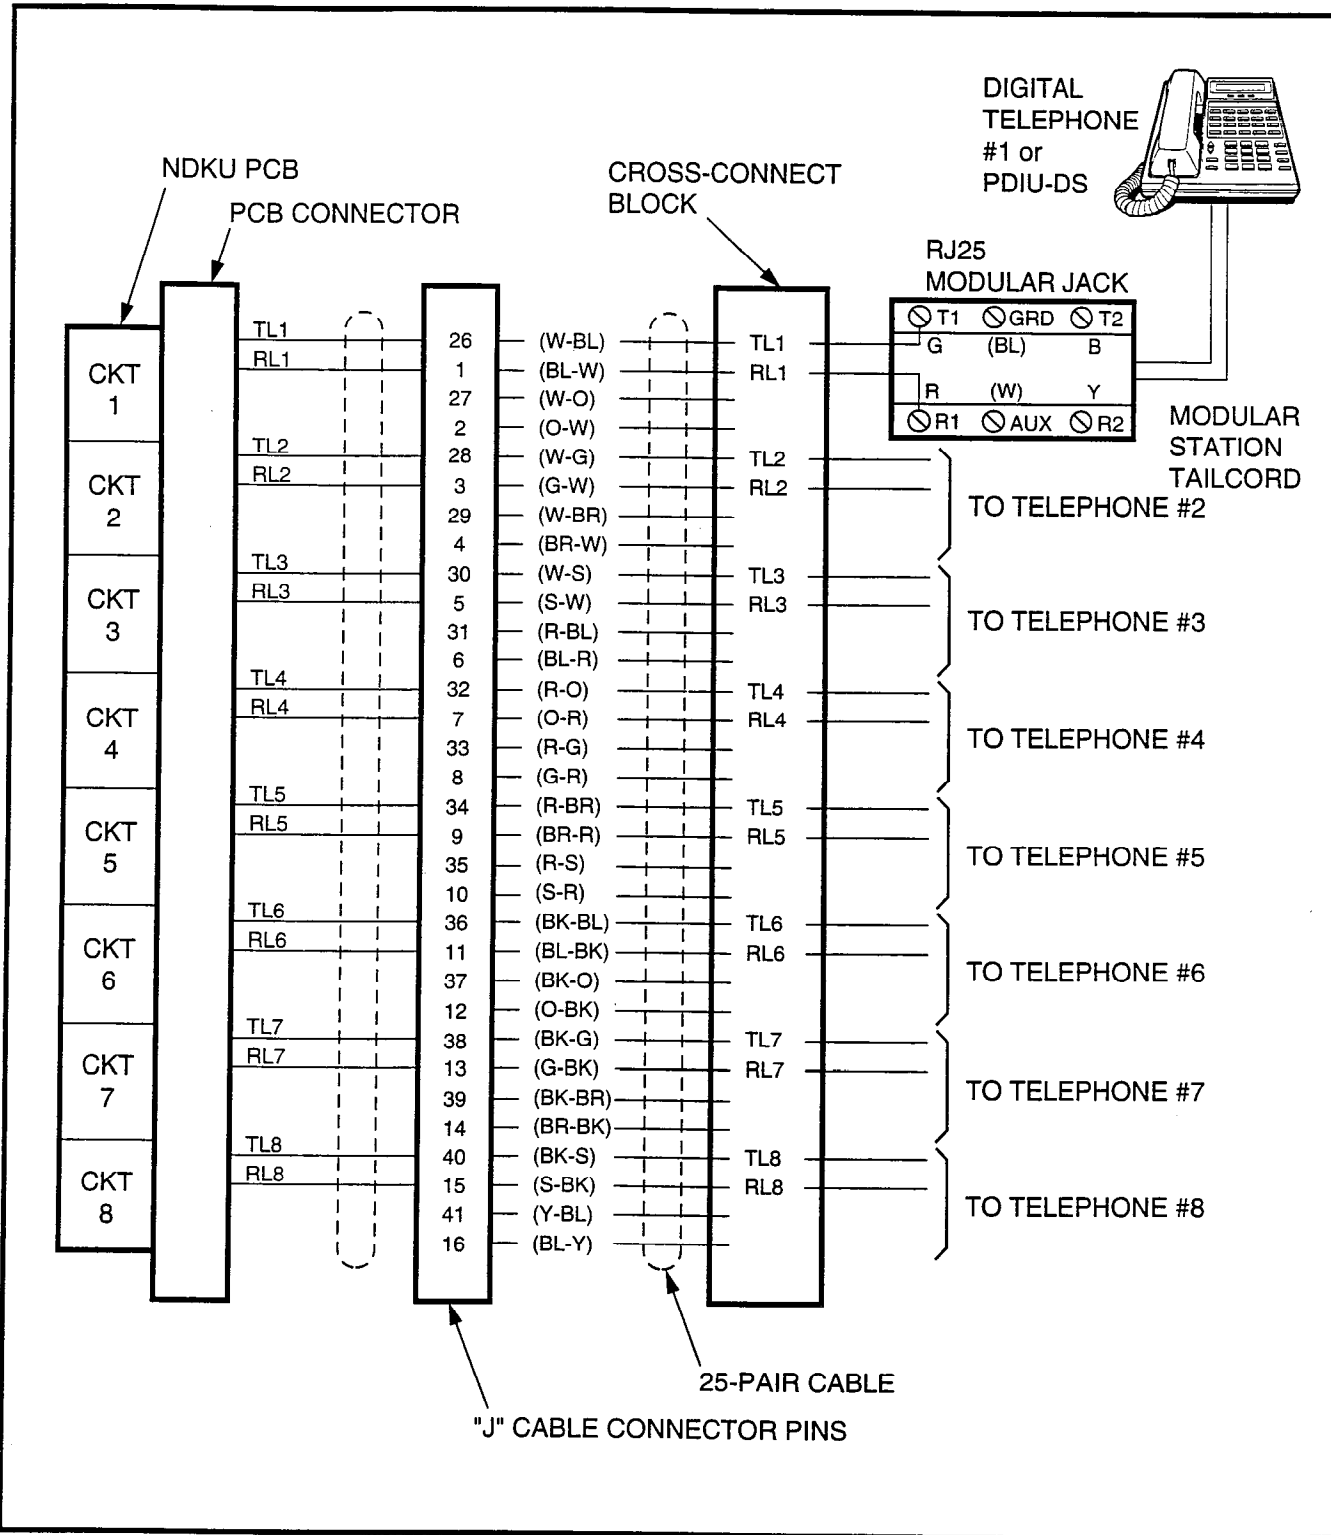

FIGURE 4-42—DIGITAL TELEPHONE CONNECTION
6.04 Digital telephone connection details are shown in Figure 4-42.
Digital Telephones with Data Interface Units (PDIU-DI) or Off-hook Call Announce (DVSU), and Stand-alone Data Interface Units (PDIU-DS) are connected, per Figure 4-42, using single-pair wiring.
6.24 A single pair of wires are required to connect the digital telephone to the NDKU port. OCA connection details are shown in Figure 4-42, the Digital Telephone Connection diagram.
2. Digital Data Interface Unit (PDIU-DI and PDIU-DS) connection details are shown in Figure 4-42, the Digital Telephone Connection diagram.